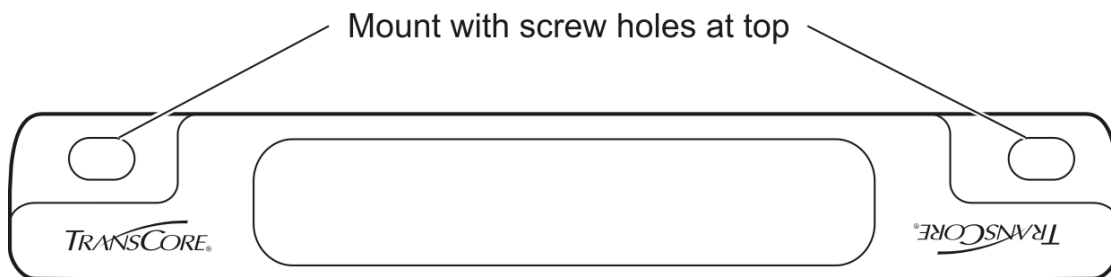

Figure 18 Correct Tag Orientation
3. Hold the LPT so that the etched lettering is facing you, the mounting holes are to the top, and the TransCore logos are at the bottom as shown in Figure 18.